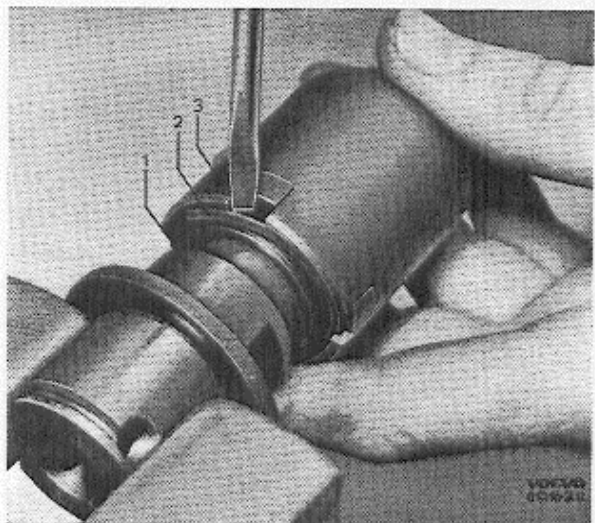
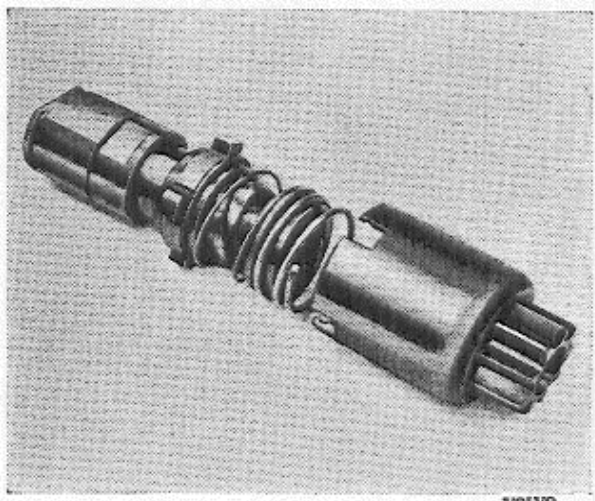

Fig. 44.
Fig. 45.
10. Remove the lock ring (2, Fig. 44) which holds the drive (3) for the sleeve (1) and lift off the sleeve. The location of the various components is shown in Fig. 45.
- Fit the Bendix device on the rotor shaft and fit the lock screw, see Fig. 44. Take away the puller and tubular driver.